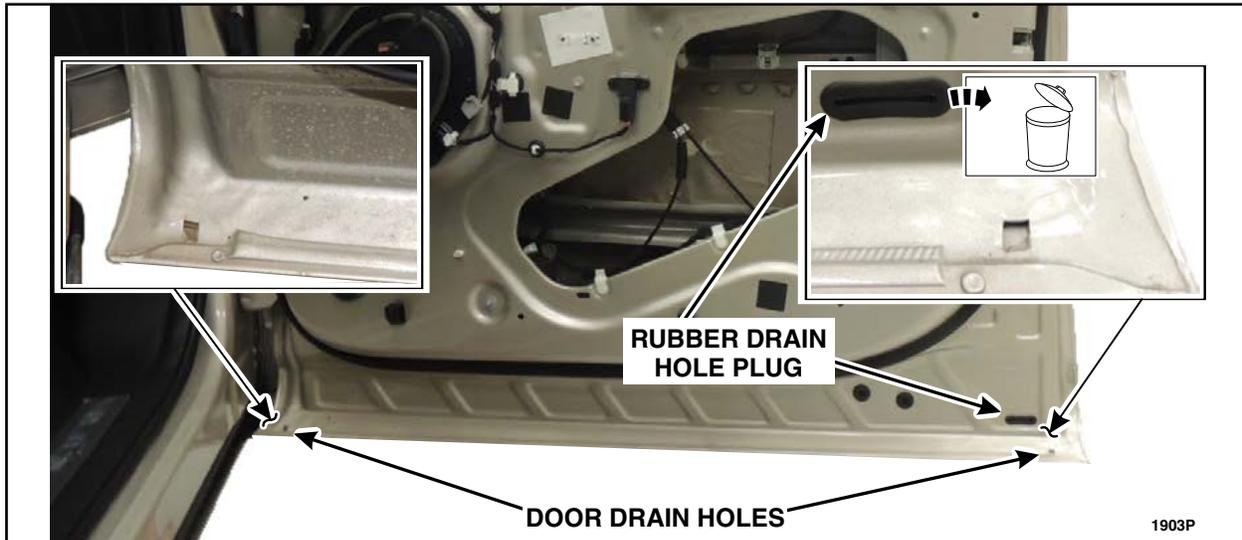

FIGURE 4
6. Remove and discard the rubber drain plug and clean any obstructions, debris, foreign material and residual water from all of the door drain holes using compressed air and a tool such as a plastic trim tool or a zip tie. See Figure 4.